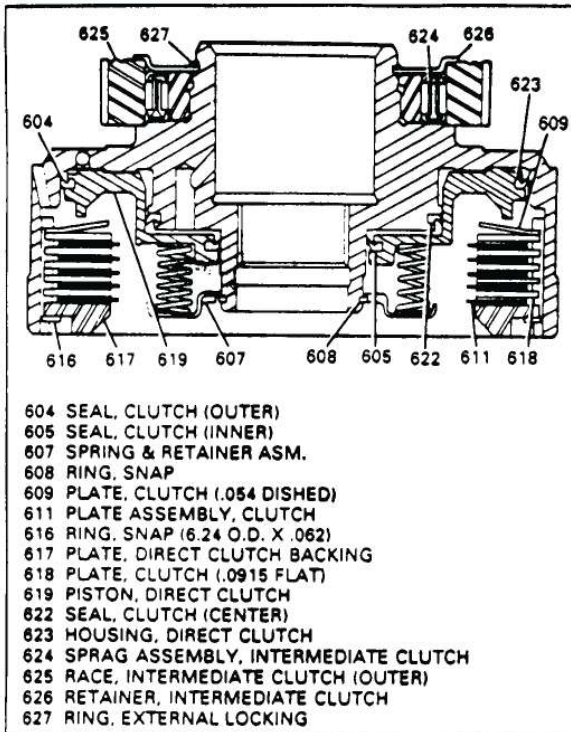

Figure 73
2. Remove the direct clutch pack, 5 lined plates, 5 steel plates, and 1 dished plate (See Figure 73).
20. Install dished plate into direct clutch housing with the inner diameter facing down (See Figure 73).
21. Install 5 lined plates and 5 steel plate starting with a steel plate on top of the dished plate, and alternating. (See Figure 73).